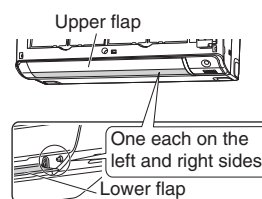

Fig.1
- 2) Remove the lower flap. (See Fig.1)